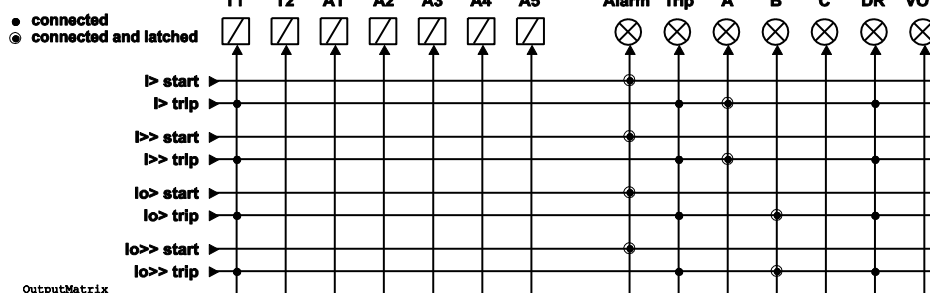

Figure 8.4-1 Output matrix.
There are two LED indicators named "Alarm" and "Trip" on the front panel. Furthermore there are three general purpose LED indicators – "A", "B" and "C" – available for customer-specific indications. In addition, the triggering of the disturbance recorder (DR) and virtual outputs are configurable in the output matrix. See an example in Figure 8.4-1.